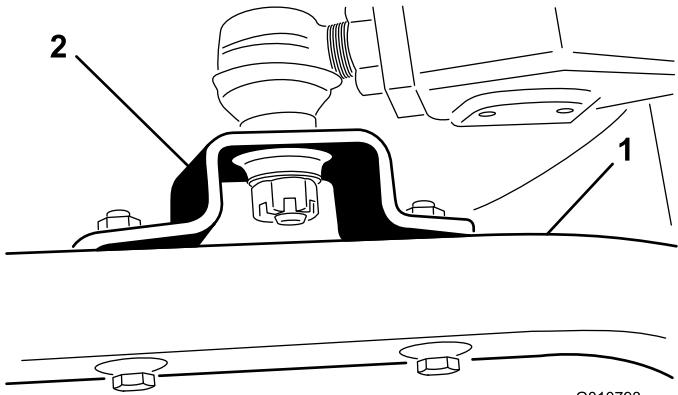

Figure 19
4. Remove the capscrews and locknuts securing the ball joint mounts to the castor arms on the cutting unit (Figure 19).
4. Move the lift lever to the Float position. Push the lift arms down until the holes in the ball joint mounts lineup with the holes in the castor arms (Figure 19).